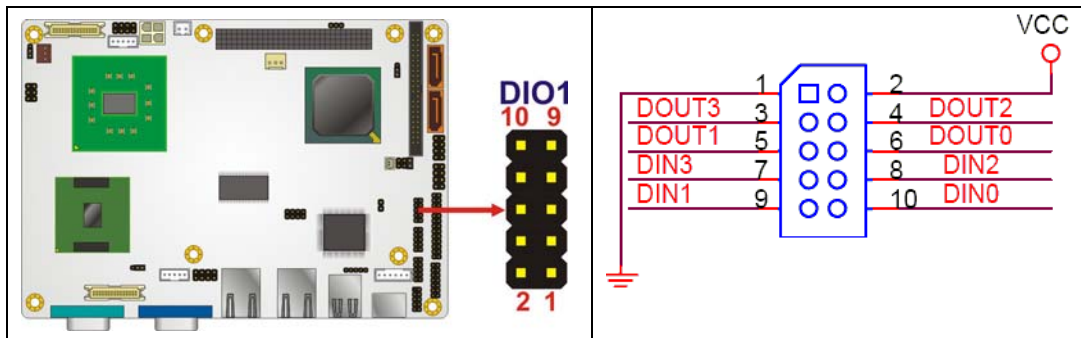

Figure 4-9: DIO Connector Connector Locations
- CN Location:** See Figure 4-9